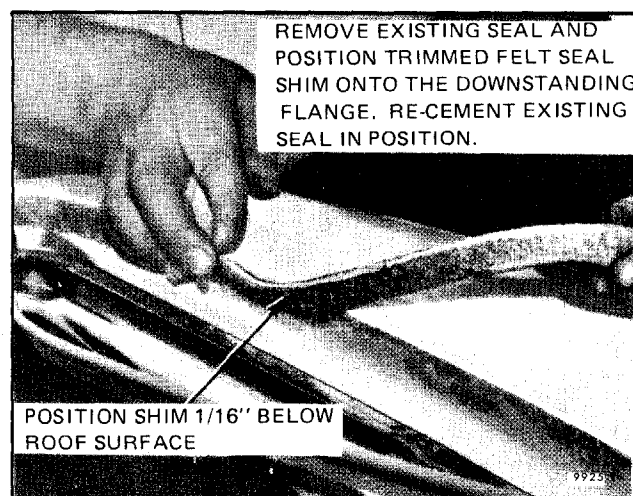

Fig. 8-86-Shimming an Excessive Gap for Cars **WITHOUT** Full Fabric Roof Cover
- b. To shim affected area, use a modified version of the current released felt seal, (Fig. 8-86). Modify and install the felt seal as follows:
2. Using the remaining portion, cement with 3M 8064 Vinyl Trim Adhesive or equivalent, 1.6 mm (1/16") below finish of the roof surface (Fig. 8-86).